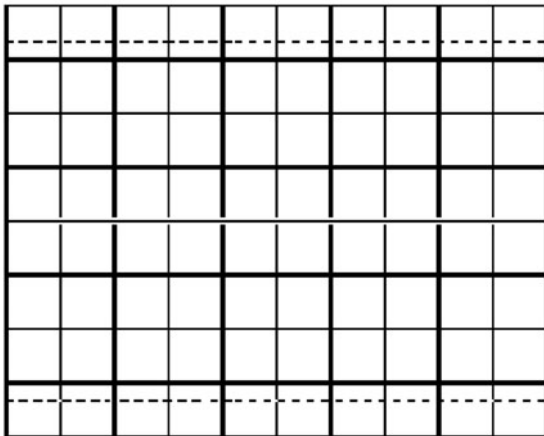

Figure L59-5
- d. Now turn the volume all the way up. Whistle again. Draw this on the scope face in Figure L59-5.